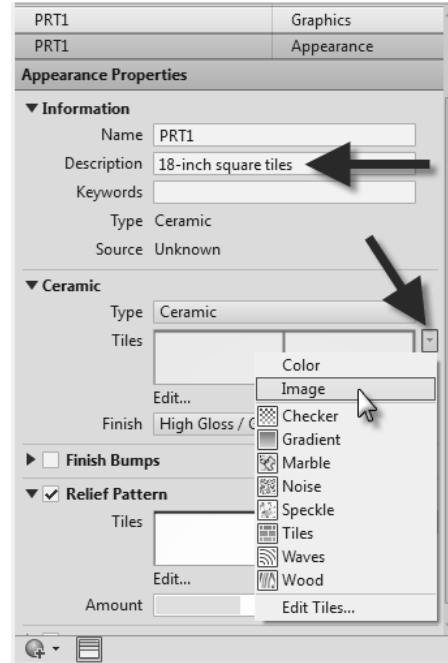

FIGURE 4-4.17 Appearance panel
70. Back in the *Material Editor*, with PRT1 selected, adjust the *Description* as shown in Figure 4-4.17.
71. Select the down-arrow to the right of the *Tiles* preview and select **Image** (Figure 4-4.17).